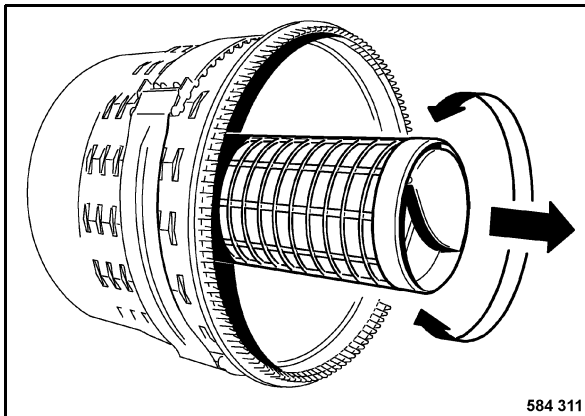

Fig. 189
- Pull the safety element (Fig. 189) out by turning it lightly.